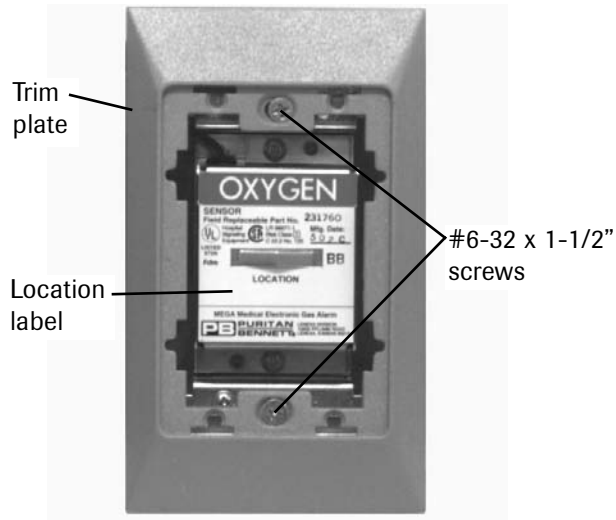

Figure 16
5. Mark the location monitored by the sensor in the space provided on the sensor label. Refer to **Figure 16**.
6. Install trim plate using (2) #6-32 x 1-1/2" screws. **Do not tighten.** Refer to **Figure 16**.